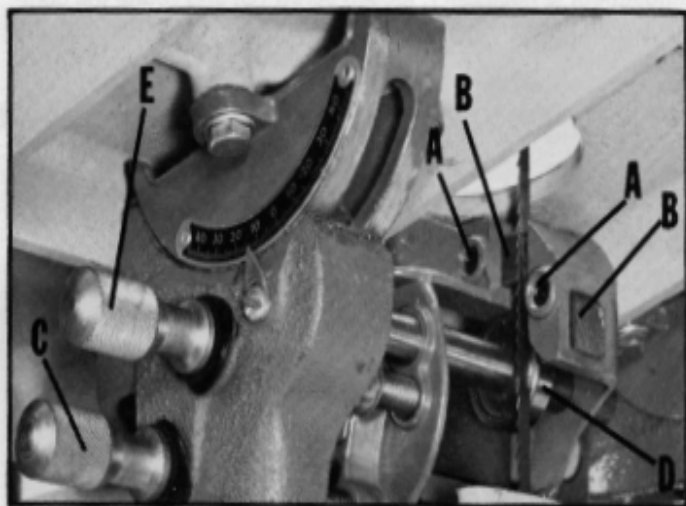

Fig. 37
1. Loosen the two screws (A) Fig. 37, and move the guides (B) as close as possible to the side of the blade, being careful not to pinch the blade. Then tighten screws (A).
2. The front edge of the guide blocks (B) should be adjusted so they are just behind the "gullets" of the saw teeth by turning the knurled knob (C) Fig. 37.
3. The lower blade support bearing (D) Fig. 37, should be adjusted so it is about $1/64$ " behind the back of the blade by turning the knurled knob (E).